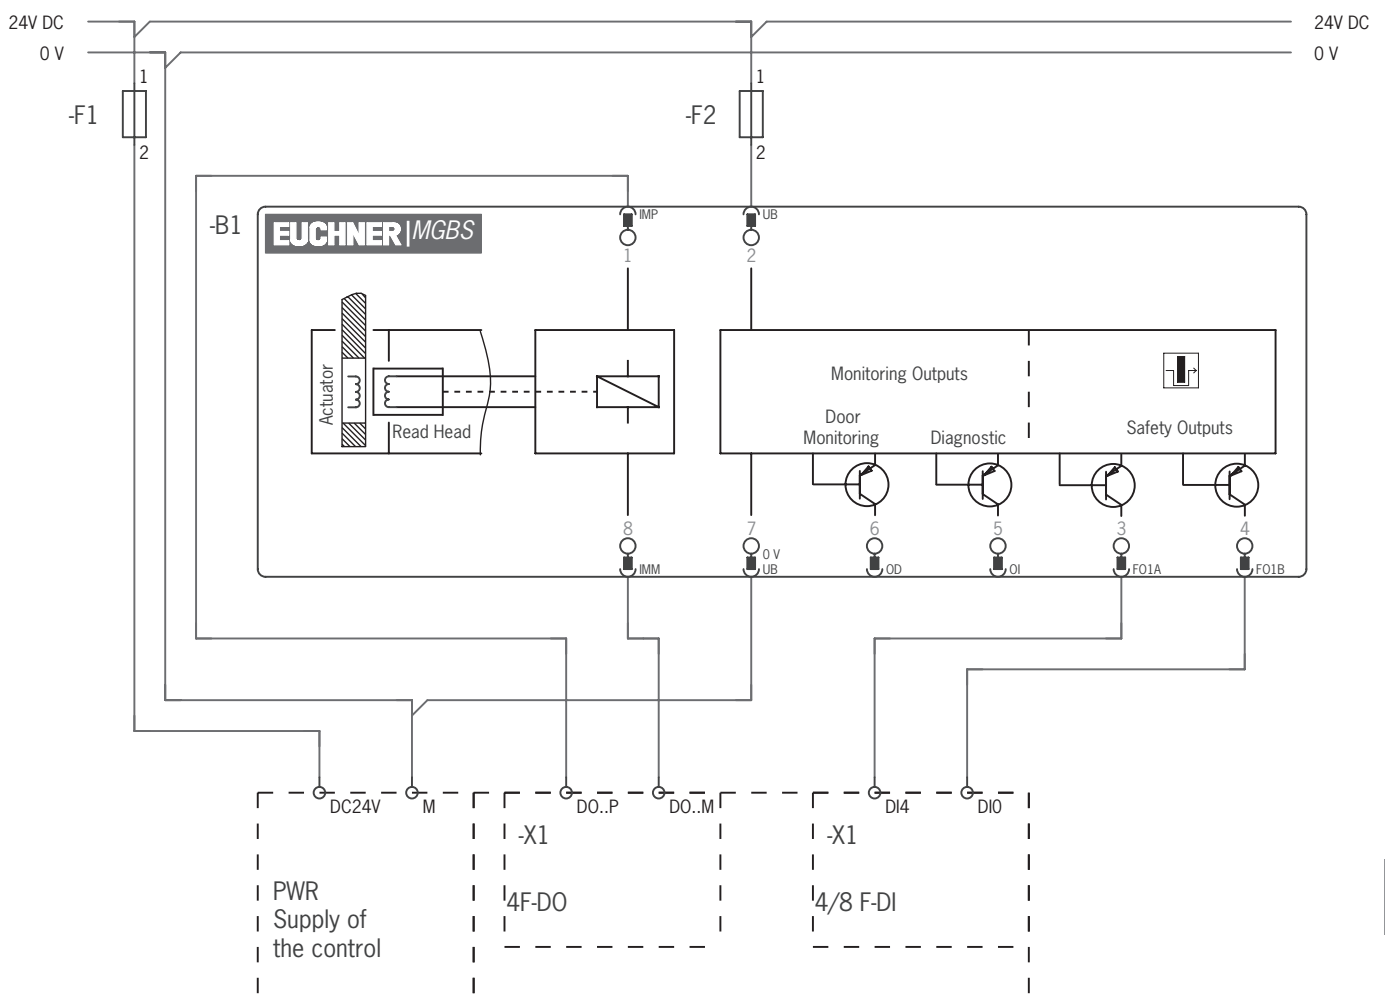

Fig. 5: Connection example for the connection to ET200
- › For dual-channel control of the solenoid voltage by safe outputs of a control system, the following points must be observed (see also Fig. 5 on page 29):